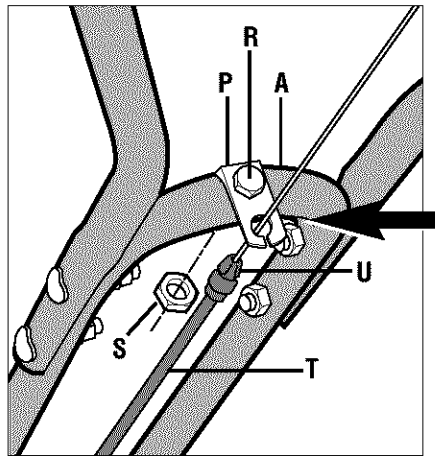

Fig. 2-4: Installing forward clutch cable bracket and cable.
1. Place the forward clutch cable bracket (P, Fig. 2-4) on the handlebar support (A). Attach the cable bracket using a 1/4"-20 x 1-1/4" hex hd. screw (R, Fig. 2-4) and 1/4"-20 hex locknut (S). Tighten securely.
2. Carefully unwrap the forward clutch cable (the cable without a knob attached to it) from its shipping position and slide the thin cable wire (T, Fig. 2-4) into the slot in the cable bracket. Push the cable connector (U, Fig. 2-4) up through the hole in the bracket until the groove in the connector snaps into place on the bracket.